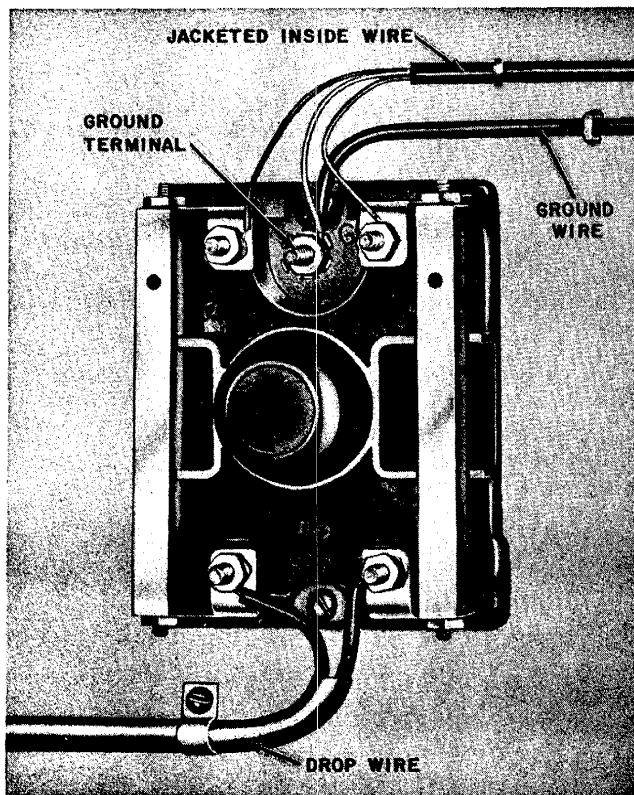

Fig. 12—98AA Protector
**5.01** Typical installations of the fused 98AA, 106C, and 106CA Protectors are shown in Fig. 12, 13, and 14, respectively.